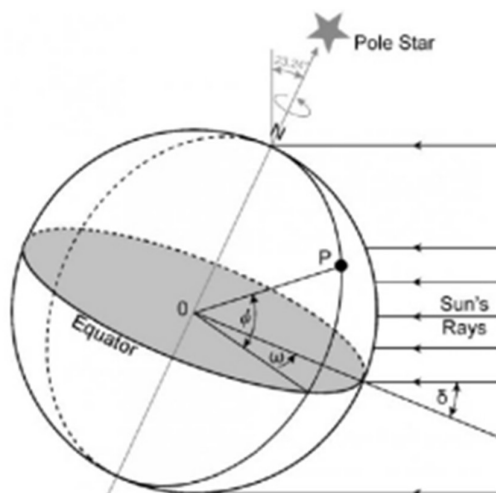

Fig. 2.14: Declination angle
13. **Declination angle:** It is defined as the angle drawn between the lines joining the centre of Earth to the centre of the Sun, having its projection on the equatorial plane of the Earth. It is denoted by ' δ '. The figure of declination angle is shown in Fig. 2.14.